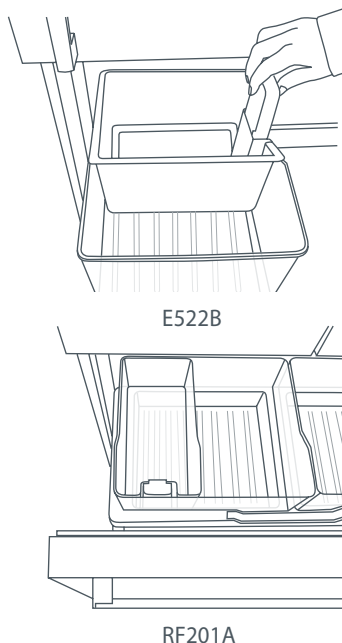

Fig.23 Ice storage bin and scoop in correct position
- If the bin is full, or inserted incorrectly the ice maker will not operate. When the bin is inserted correctly the scoop will be on the right hand side of the bin for models E522B and the front of the bin for model RF201A (refer to Fig.23). If all bins are removed the ice maker will not operate.